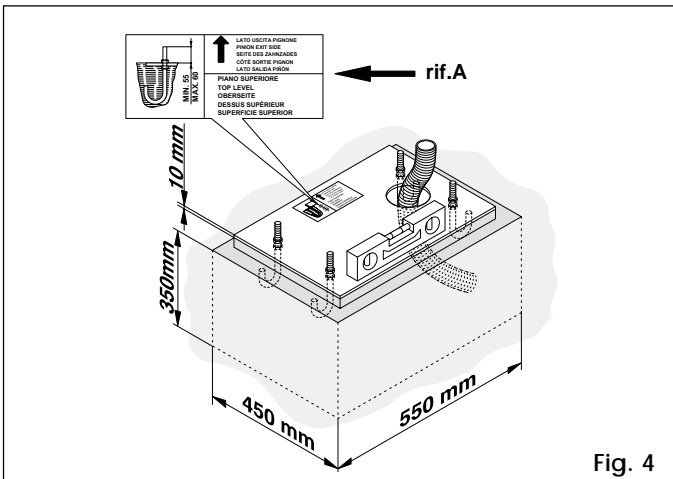
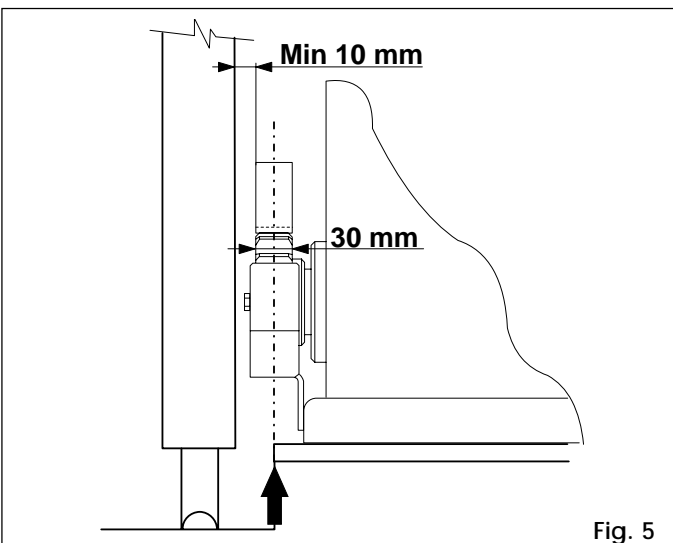
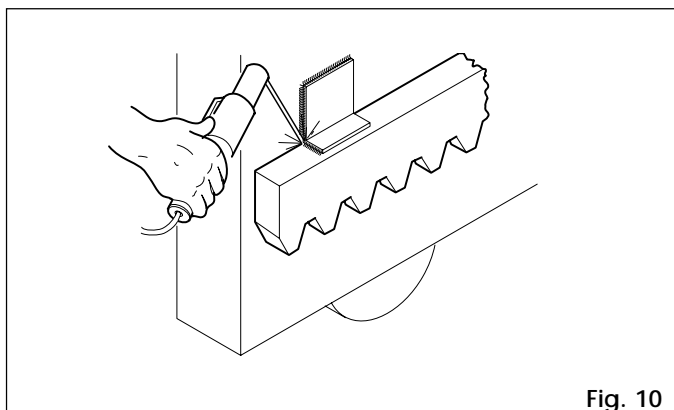

Fig. 4
Fig. 5
Fig. 10
- 1) The base plate must be positioned as shown in Fig. 4. For the positioning distances refer to fig. 5.
- 2) Assemble the foundation plate as shown in A, Fig. 4.
- 3) Prepare a foundation plinth as shown in Fig. 4 and install the base plate providing one or more conduits for electrical cables. Use a level to check that the plate is perfectly horizontal and wait for the cement to set.
- 3) Adjust the height of the feet while keeping the gear motor raised from the plate by 1 cm and maintaining the distance from the gate shown in figs. 5 and 9.
**Important:** To mount the rack on the leaf it is necessary to construct special supports specifically for the type of gate. Fig. 10 shows an example of "L" support. For positioning the supports refer to figs. 5 and 9.